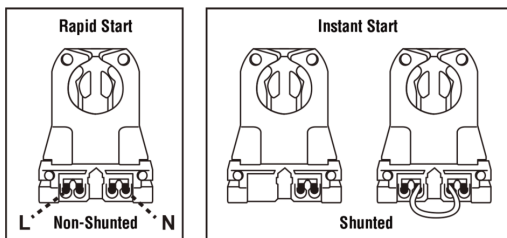

Fig:1 - Non-Shunted & Shunted Lamp Holder
- 6) Ensure that the fixture contains non-shunted G13 bi-pin lampholders (Fig. 1). If socket lampholder are internally shunted, then replace with new non-shunted socket lampholders. If socket lampholders are shunted with a jumper wire, remove wire to convert into non-shunted sockets.